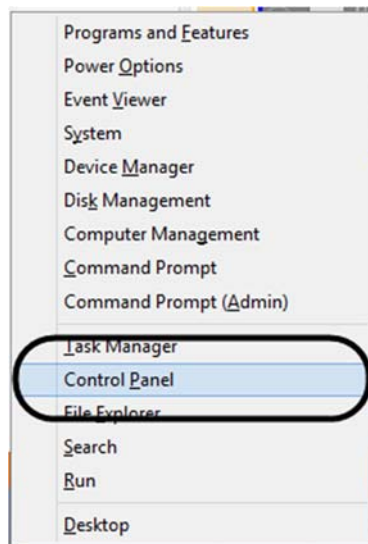

Figure 63
1. Press the **Windows Key + X** and select **Control Panel** from the pop-up menu (Figure 63).